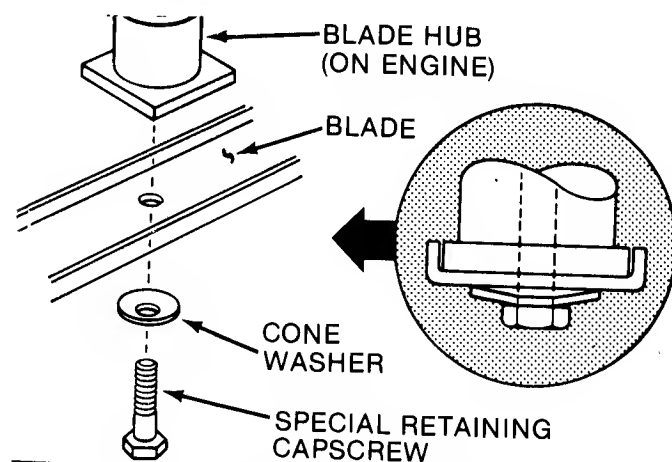

FIG 7 - BLADE RETENTION DETAIL
**INSTALL** blade with components in sequence shown in Figure 7. Make sure that the turned-up rims in the center of the blade fit over the edges of the blade drive hub when installing. Do not substitute any components here. Tighten the blade retaining capscrew 20 to 30 foot pounds torque value.